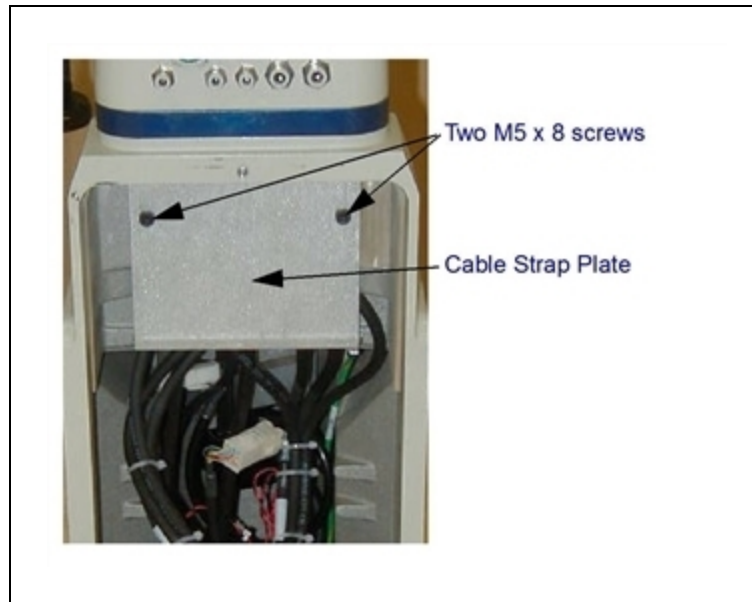

Figure 7-12. Removing the Cable Strap Plate
11. Remove the cable strap plate by removing two screws and split washers. See Figure 7-12. This allows the harness to move when you lift the J1 cover in the next step.